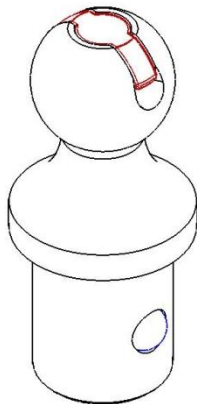

Figure 3 - Locked
2. To install Pop-In™ Gooseneck ball - Lift handle in center of the ball and rotate 90 degrees (see figure 2). Insert Gooseneck ball assembly in the receiver tube in the bed of the truck with the ball bearings oriented side to side of the truck bed. Turn the center handle 90 degrees so that it drops in the slit in the top of the ball. If the center handle does not retract fully, rotate the ball until the handle seats itself in the slot (see figure 3).